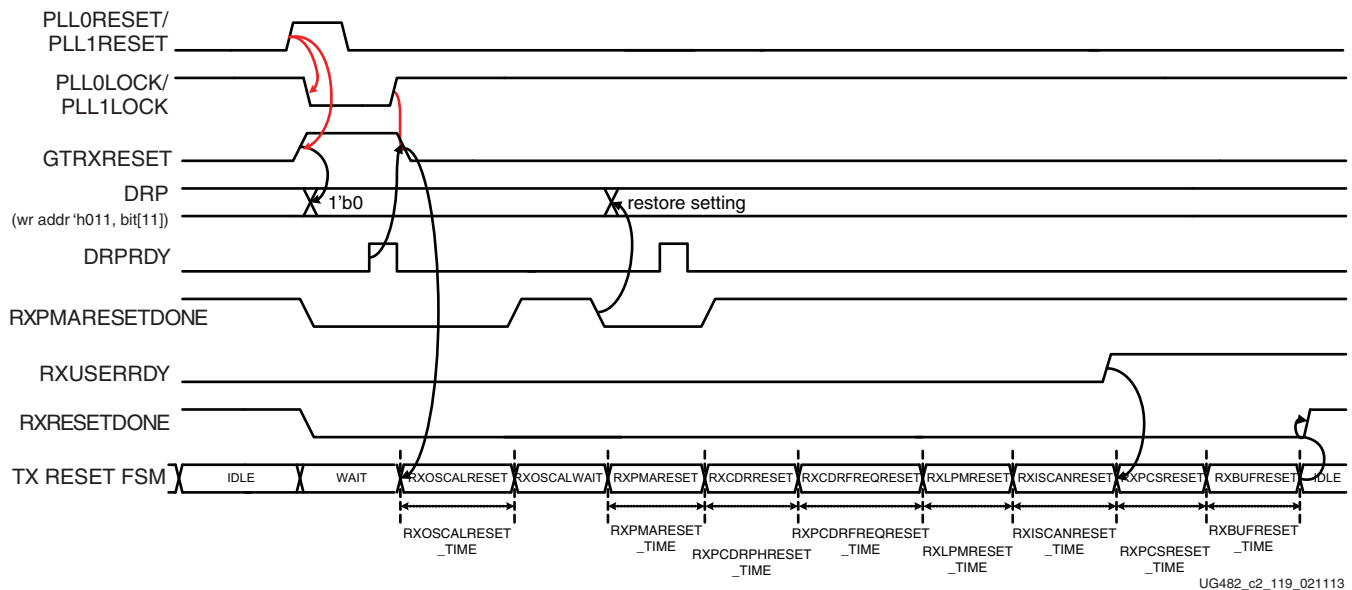

Figure 2-19: GTP Transceiver Receiver after FPGA Configuration
When users want to issue a GTRXRESET upon configuration, the steps in Figure 2-19 should be performed.
Notes relevant to Figure 2-19:
2. The sequence of events in Figure 2-19 is not drawn to scale.
Note: It is recommended to use the associated PLLLOCK from either the PLL0 or PLL1 to release GTRXRESET from High to Low as shown in Figure 2-19.